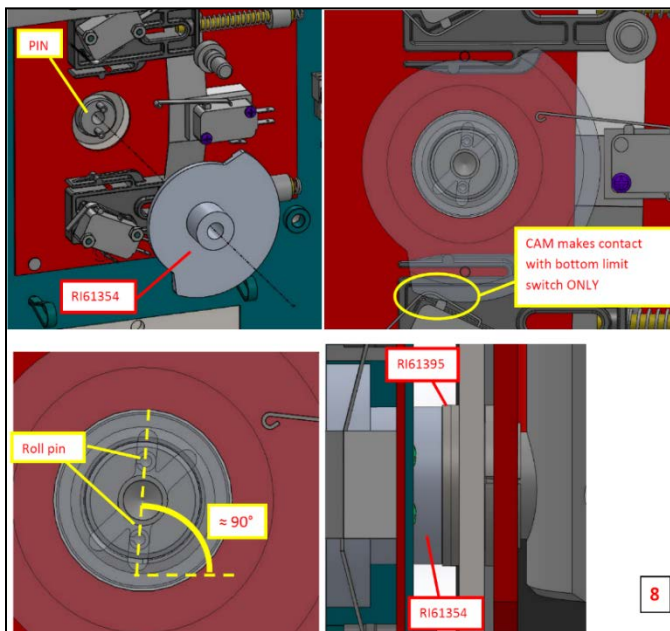
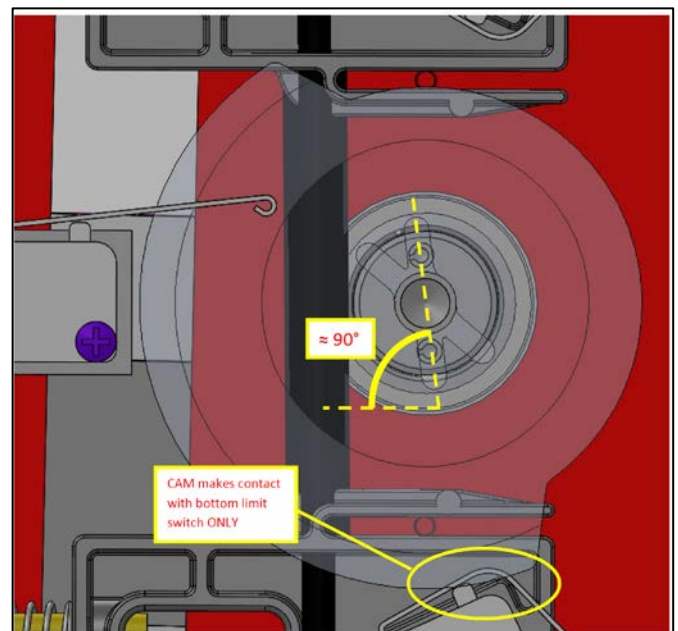

Figure 8A: Installing the CAM onto the PIN
Figure 8B: Pump Installation – Left Hand
10. Install the CAM from the kit onto the PIN. Make sure the roll pins from the PIN are inserted into the slot that is oriented approximately 90 degrees in **Figure 8A** for right hand configurations and **Figure 8B** for left hand configurations. The CAM should only touch the bottom limit switch. Depress the switch until you hear a click.